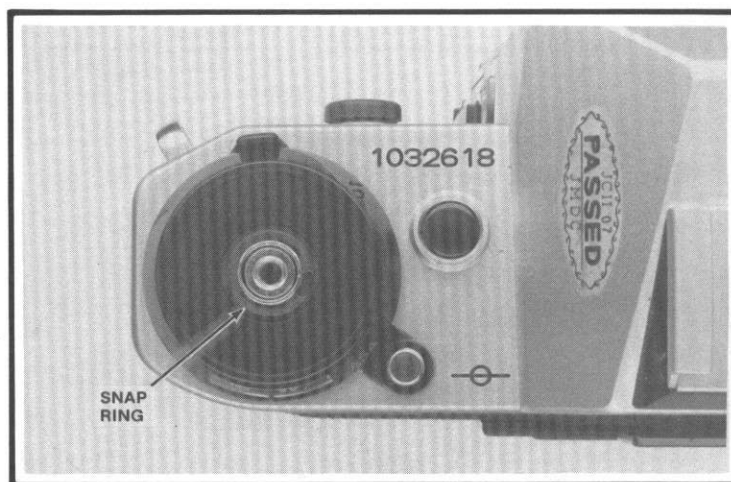
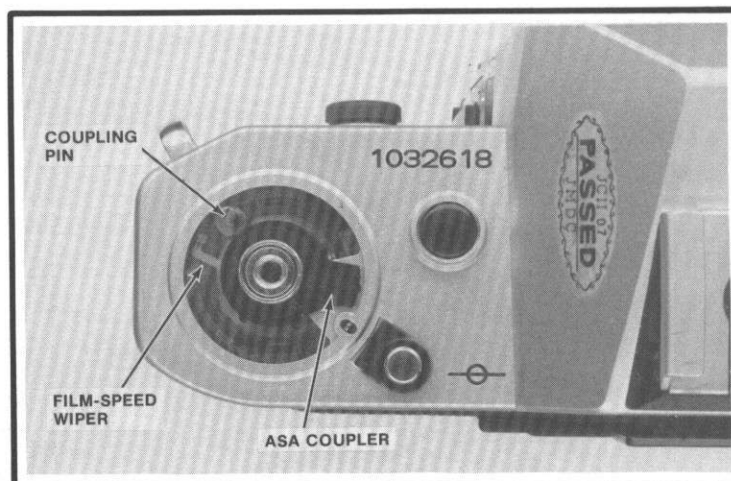

Figure 7
Figure 8
5. Set ASA 100. Remove the film-speed dial by taking off its snap ring, Fig. 7. Note that the film-speed dial is in two sections with a wave washer between the dial and the dial cover. Be careful to avoid turning the film-speed wiper, Fig. 8. You can then note the position of the film-speed wiper at ASA 100, the setting for exposure adjustments.
6. Lift out the ASA coupler, Fig. 8.
4. Seat the ASA coupler, Fig. 8, with its pin in the top-cover slot.